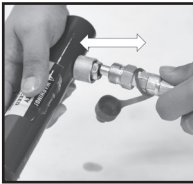

Fig.8
- Release pressure and disconnect the Ram (4) from the pump Assembly (1) (Fig 8).